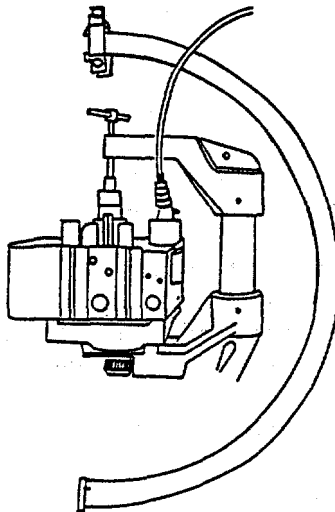

FIGURE 4-10. *Hydrostatic Tester and Plate.*
(2) Tighten the injector sleeve holding tool capscrews to the following torque values:
(3) Install the cylinder head in a hydrostatic tester and hydrostatic tester adapter plate (Figure 4-10) as follows: